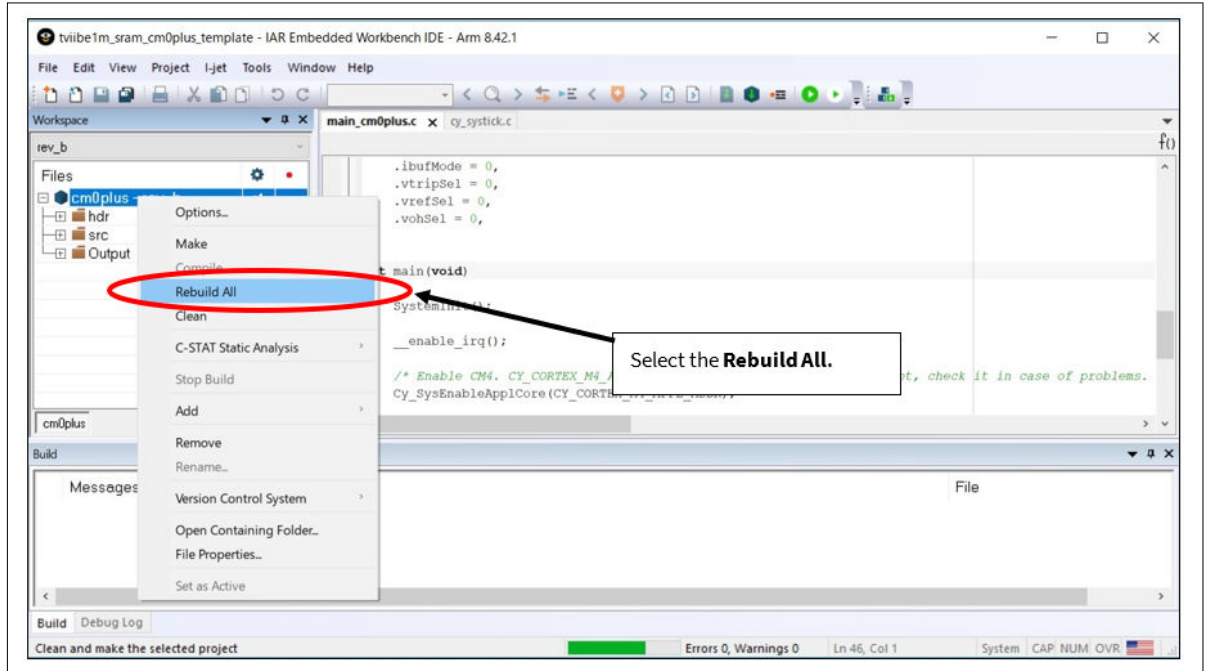
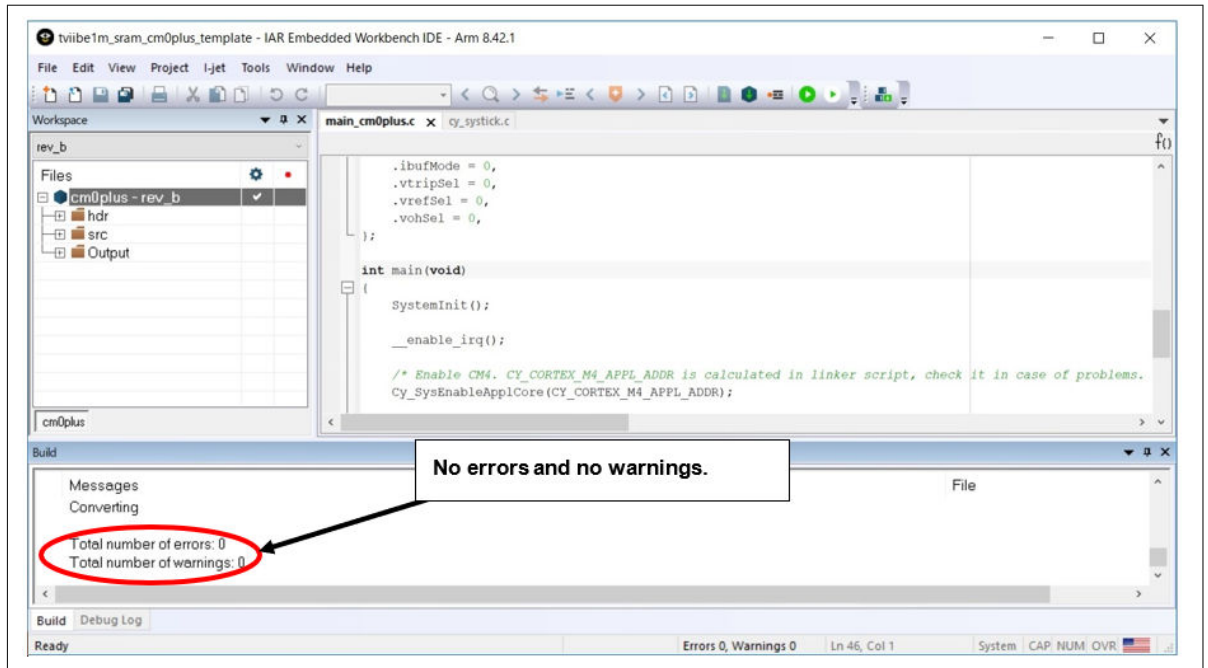

Figure 22 Rebuild the project of SDL project
Figure 23 Rebuild successful of the project of SDL project
- For the build, select *cm0plus.eww* on the workspace and right-click and select **Rebuild All** as shown in Figure 22. The Rebuild All process starts, and no errors and no warnings messages appear as shown in Figure 23.